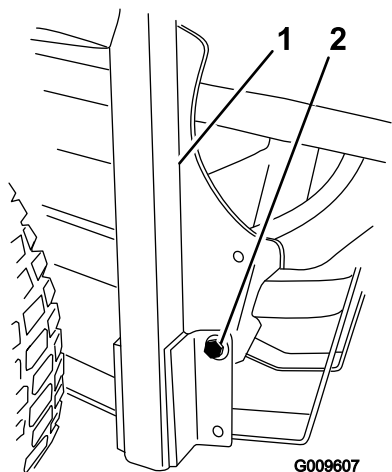

Figure 2
1. Remove the hardware holding the ROPS to the machine and discard this hardware (Figure 2).